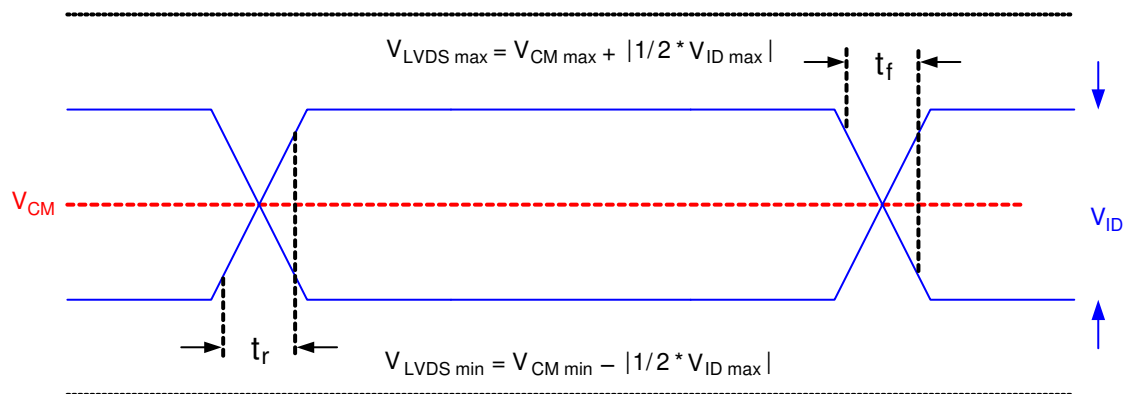

图 5-5. LVDS Waveform Requirements
- (8) Refer to 图 5-5.
- (9) Simultaneous exposure of the DMD to the maximum 节 5.4 for temperature and UV illumination reduces device lifetime.